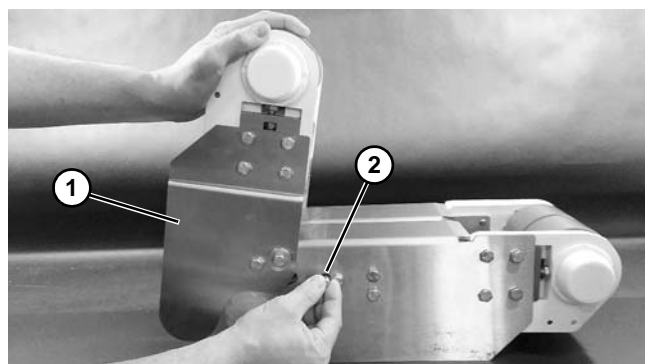

Figure 41
To lower idler tail, push idler tail (**Figure 41, item 1**) to its maximum up position, and move locking lever (**Figure 41, item 2**) up to disengage lock. Lower tail slowly.